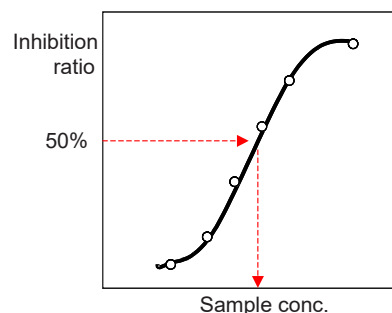

Figure 10 Inhibition curve
- Prepare an inhibition curve using sample concentration for the x-axis and percentage inhibition of ACE for the y-axis. A typical inhibition curve is shown in Figure 10.
- Determine the concentration of the sample solution that gives 50% ACE inhibition as indicated in Figure 10.